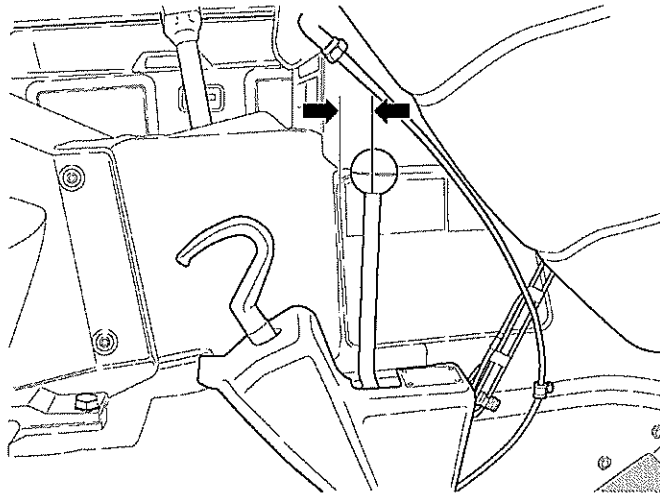

Fig 10 Transfer gear lever adjustment
16.1 Place transfer gear lever in neutral position. Gauge free movement of lever in this position then move lever to centre point of free travel. If centre of gear lever knob is approximately 40 mm from bead at air duct channel, adjustment is correct (see Fig 10).